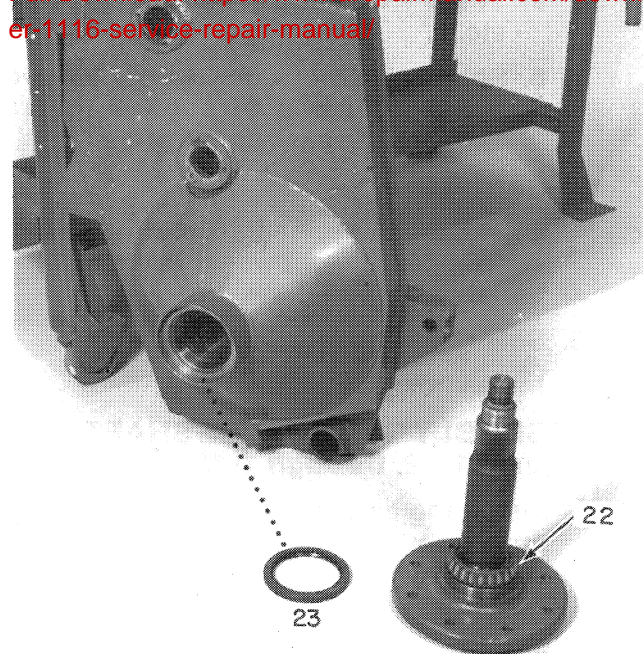

FIGURE 1-14
2. Install the outer bearing cone, 22, Figure 1-14, on the axle. Pack the two bearing cones. Install the oil seal, 23, Figure 1-14, in the housing. Oil the seal lip. Install retaining ring (19) in axle gear. Use hook to place the axle gear in the housing with the retaining ring away from the wheel.